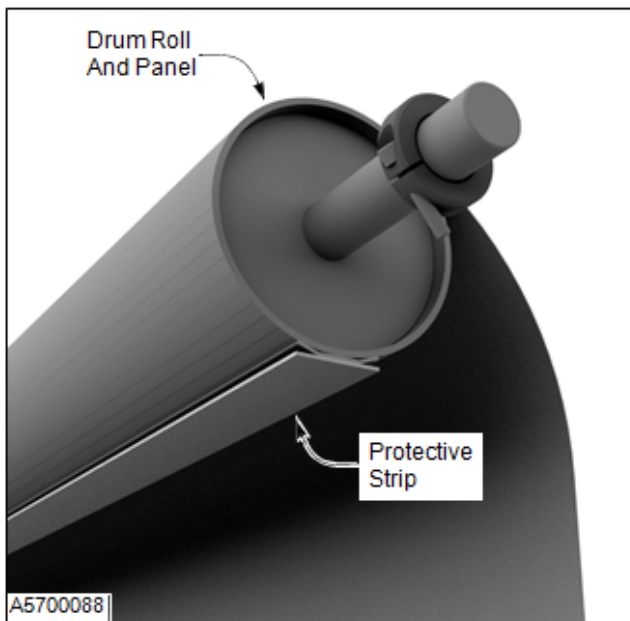

Figure 47
6. Remove the protective strip covering the hardware and clamp bar. (See Figure 47)